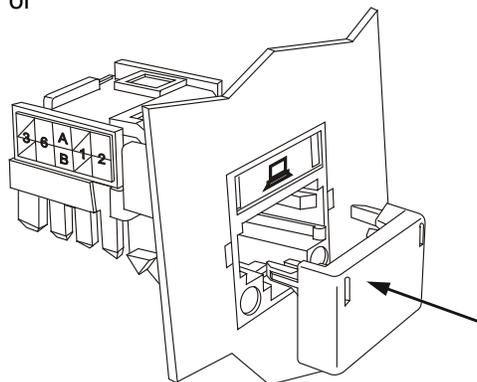

Figure 1
1. Insert prongs of cap into openings at sides of module and press firmly (Figure 1).